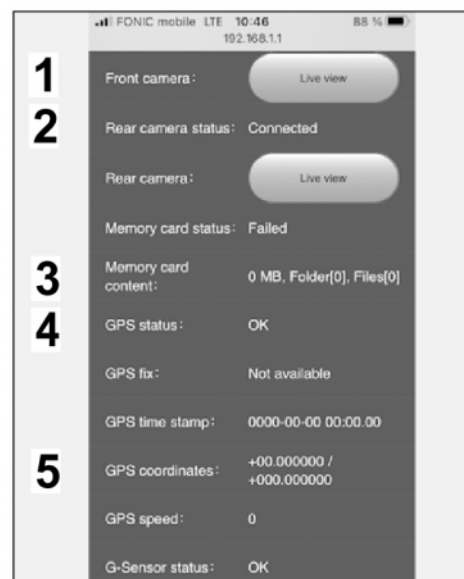

Figure 35
- 6.2 Display of live images from front camera, connection status, memory card status, GPS and radar status and more (⇒ *Figure 35*).